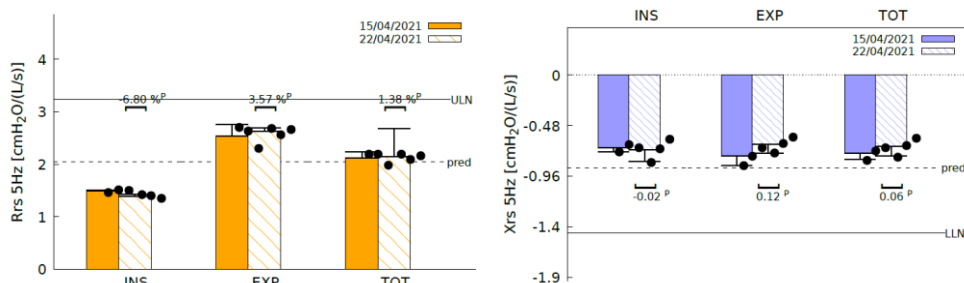
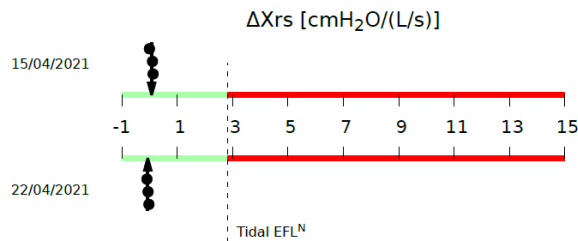
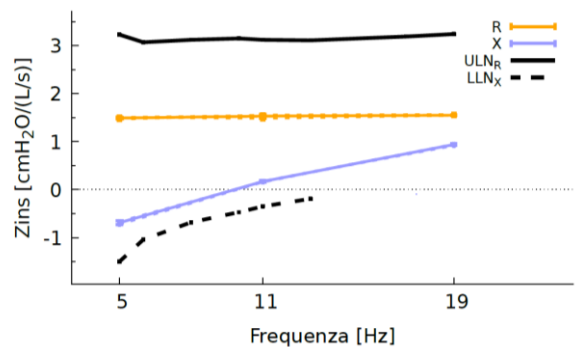

Figure 78 - Bars for resistance and reactance
Figure 79 -Expiratory Flow Limitation (EFL) during tidal breathing
Figure 80 - Inspiratory resistance and reactance spectra
Refer to Figure 78.
- Bars on the left chart of Figure 78 represent the mean and standard deviation of inspiratory (INSP), expiratory (EXP) and total (TOT) resistance calculated from the selected single measurements within a measurement session (see section *Performing a measurement session*).
- If you used a 5 Hz stimulating waveform, an additional graph on the bottom of the page is displayed (Figure 79). This graph shows as an arrow the mean and standard deviation of ΔXrs calculated over all the measurements of the session. Black dots represent the mean ΔXrs of individual measurements results. ΔXrs is the difference between the mean inspiratory and the mean expiratory reactance and it is an index of expiratory flow limitation (EFL) during tidal breathing (Dellacà et al., ERJ, 2004). A threshold of 2.81 cmH₂O/(L/s) is used to classify a patient as flow limited or non-flow limited during tidal breathing (Dellacà et al., ERJ, 2004). If such arrow is in the green part of the graph the patient has no flow limitation during tidal breathing. An arrow in the red part of the graph indicates the presence of EFL.
In addition to the charts reported when a single frequency stimulating waveform is used (Figure 78 and Figure 79) where data are the resistance and reactance at 5Hz), a new chart with values of resistance (orange solid line) and inspiratory reactance (blue solid line) at the frequencies of the stimulating waveform is reported at the bottom of the page (Figure 80). Shown values may refer to the inspiration, expiration or whole breath depending by your selection on the results screen before the exportation (see also section *Performing a new measurement session*). The default setting is inspiration.